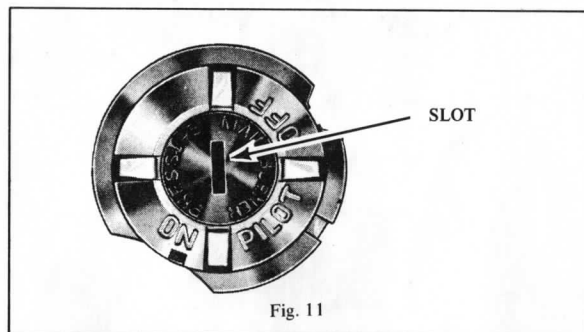

Fig. 11
1. Remove regulator adjustment cap by inserting screwdriver in slot and rotating counter-clockwise (See Fig.11).